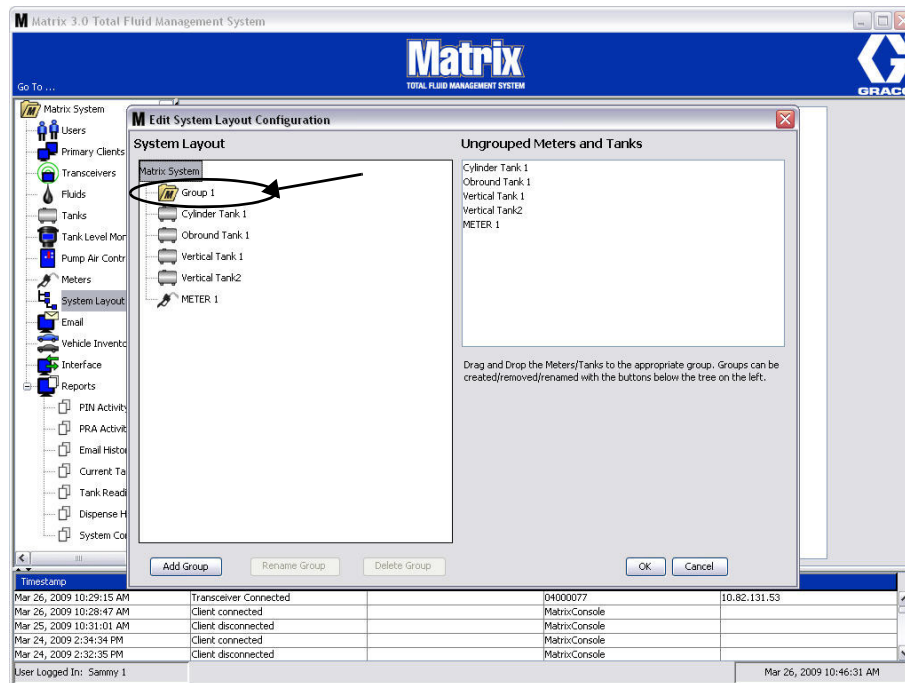

FIG. 127
6. A folder is added on the Matrix System side of the screen as shown in FIG. 127.